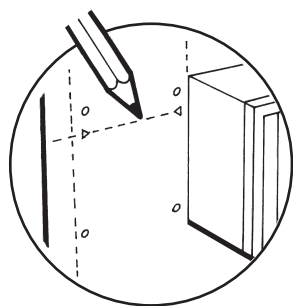

Fig. 34
4. Using the previously marked flue hole centre (Section 5.3) and the two marks made at the triangular cutouts of the template, mark the horizontal centre line for the flue assembly (Fig. 34).
5. Extend this line either left or right as required, to the corner of the room (Fig. 34).